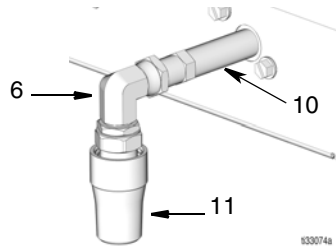

FIG. 15
8. Connect the swivel elbow (6) and high flow nozzle (11) to nipple adapter (10) in the orientation shown in FIG. 15. Tighten securely.